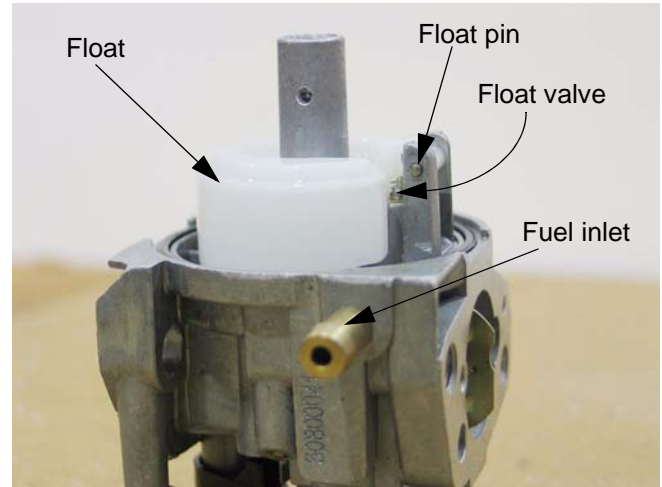

**Figure 4.39**
3. Remove the bowl bolt using a 10mm wrench. See Figure 4.39.